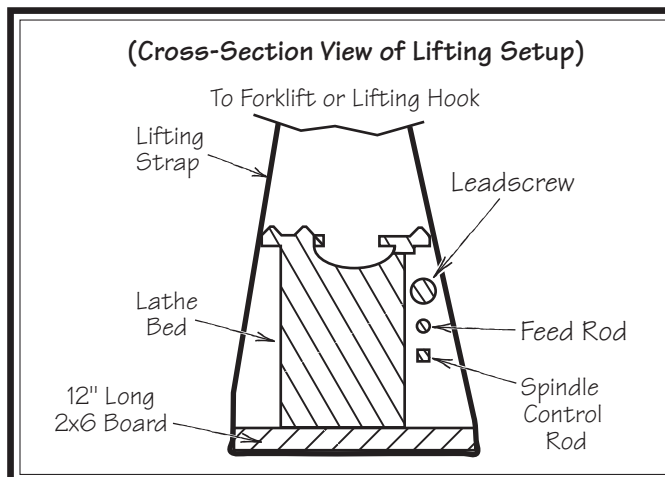

Figure 7. Cross section of lifting setup to keep strap from putting pressure against leadscrew or rods.
5. Position a 12" long 2x6 board under each end of the bed, as shown in **Figure 7**, wrap the lifting straps around the bottom of the 2x6's.